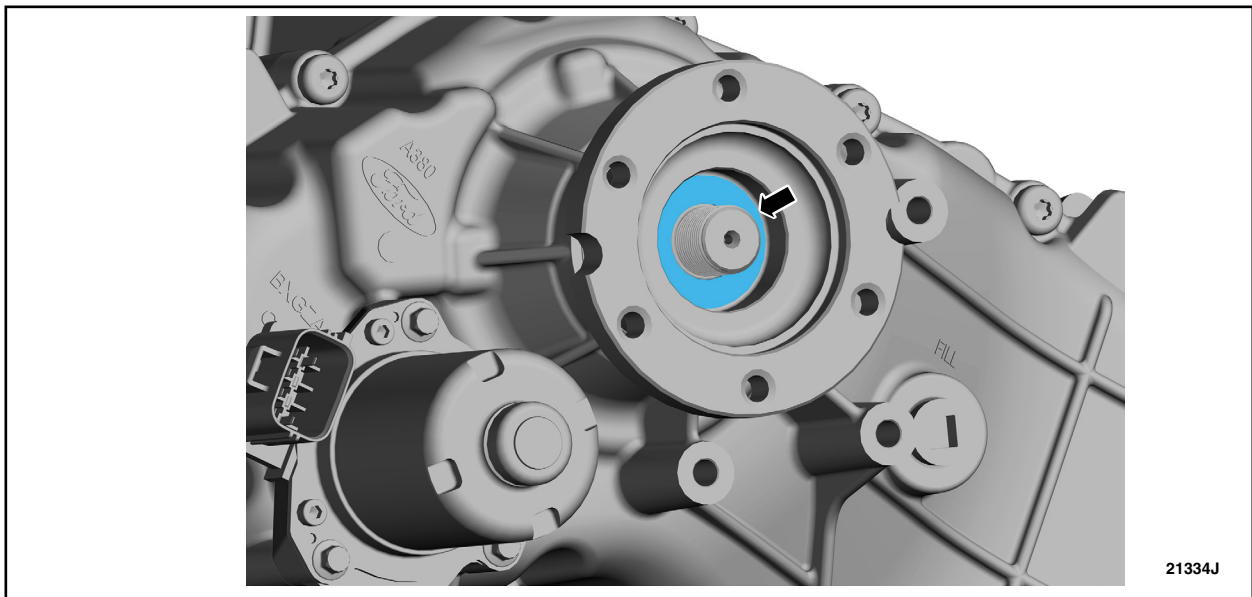

FIGURE 9
20. Remove the spacer. See Figure 9.